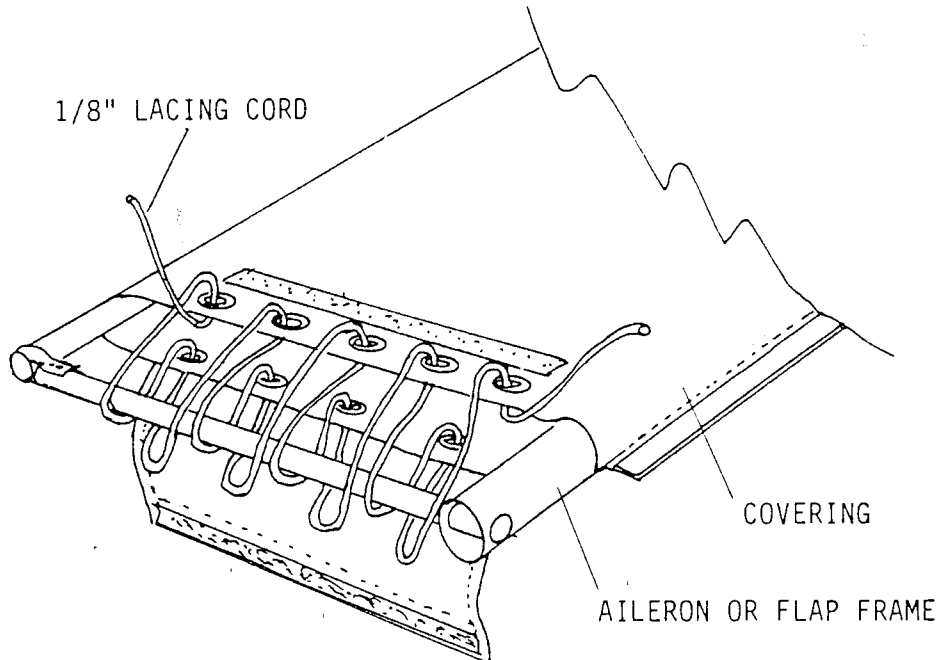

FIGURE 09-09
8. Brace the opposite end against a wall to push against as you pull on the skin. (A). After about half way on pull skin down from the top. This will scrunch it up but now you will have less tension to pull against. (B). In extreme cases where the skin is too tight (it will be evident by the bowing in of the trailing edge between ribs) file off the ribs at the buttons a little. CAREFUL it is real easy to remove too much.
9. Once the fabric is pulled on, lace the ends with 4 ft. cords cut from the rope provided. Use a hot knife to cut the cords to avoid frayed ends. Pull the cord tight after lacing through all the grommets. The proper amount of tension is reached when the skin appears smooth and taut. BE CAREFUL it is possible to rip out a grommet. This usually is from applying too much tension to one grommet. Work the tension in evenly. Close with the cover flap to complete skinning. See Figure 09-09 for lacing details.